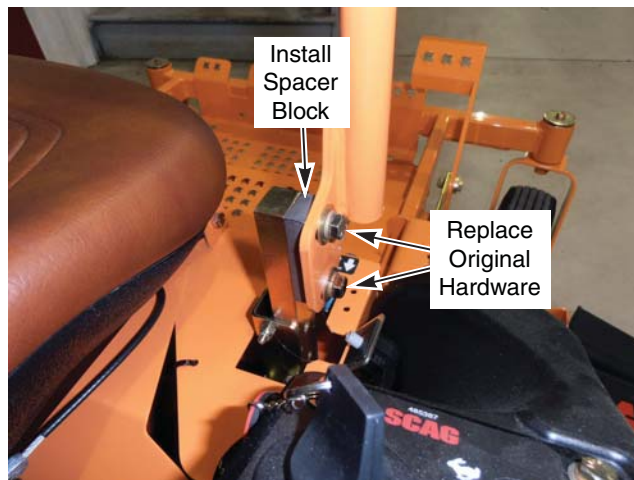

Figure 1. Install Spacer Blocks
2. Remove and discard the original hardware used to secure the LH & RH steering control levers to the control lever bars. Place one spacer block (provided) between each steering control lever and control lever bar. Secure using the 3/8"-16 x 1-3/4" hex head bolts, 3/8" lock washers and 3/8" flat washers supplied with this kit. See Figure 1.